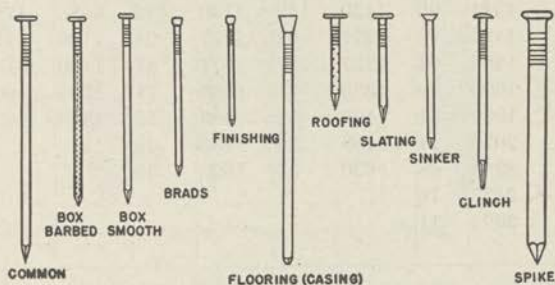

FIGURE 21.—Common wire nails.
b. Wire nails (fig. 21).—Common types of wire nails are available with or without cement coating which gives them superior holding power. The "penny" system is used in designating nail sizes; for ex-